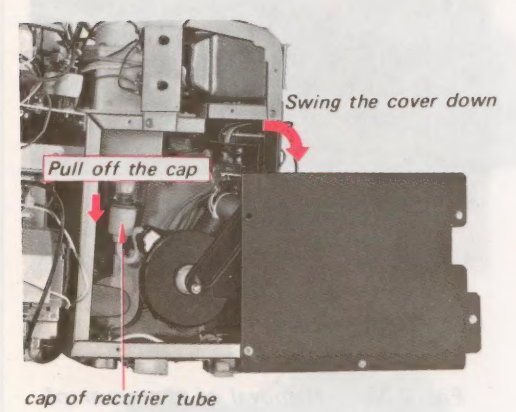

Fig.2-35. Removal of the lid of high-voltage cage
- 7. Swing the cover of high voltage cage down as shown in Fig. 2-35.